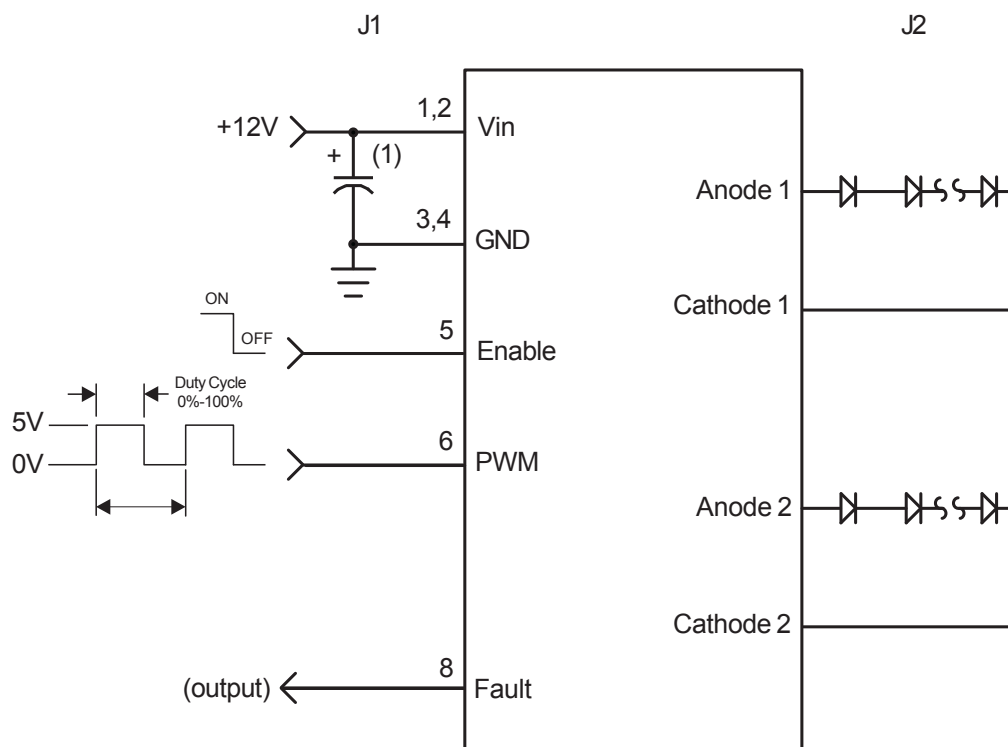

Figure 1
- OPERATION: External PWM configuration as shown in Figure 1 allows the user to control display brightness with an externally generated PWM signal. The user is responsible to provide the PWM signal. A dimming ratio up to 1000:1 is possible with this configuration. The minimum pulse width is 5 $\mu\text{s}$ .